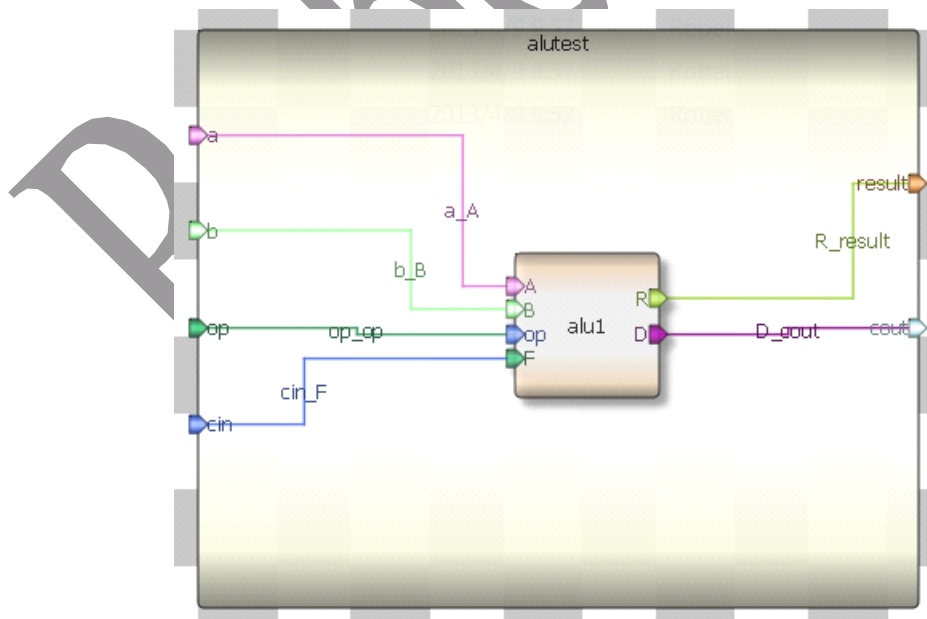

Fig. 6. Add model
- 3) Add model. Under category “Current” in Toolbox, there will be one model showing up. Add the “alu” model on testbench design, and connect ports like fig. 6.